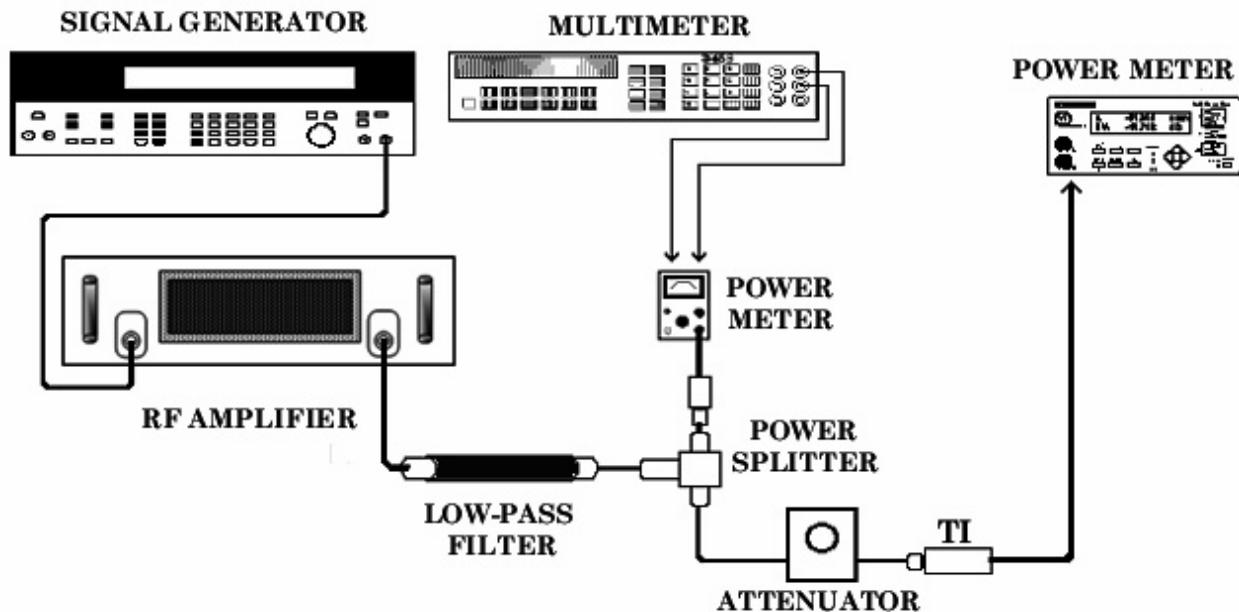

Figure 2. Power Sensor Linearity and CALFAC Equipment Hookup.
- a. Connect equipment as shown in figure 2.
- (1) Connect equipment as shown in figure 2, except remove low pass filter.
- (2) Set the step attenuator to 70 dB. Connect TI sensor to TI front panel **CALIBRATOR** output and zero the TI by pressing **ZERO/CAL**.
- (3) Set the step attenuator to 0 dB after the TI chimes to signal completing the zeroing process. Reconnect sensor to equipment hook up.
- (4) Set the multimeter to a range that results in a 1  $\mu$ V resolution. Connect the positive and negative leads to the **VCOMP** and **VRF** connectors respectively on the rear panel of the power meter.
- (5) Fine zero the power meter and set power meter **RANGE** switch to **1 mW**.
- (6) Record the multimeter indication as  $V_0$ .
- (7) Set the signal generator output to 1.0 GHz and level to 1.00 mW as indicated on the power meter.
- (8) Record multimeter reading as  $V_1$ . Record TI reading as  $P_1$ .
- (9) Disconnect the multimeter negative lead from the **VRF** connector on the rear panel of the power meter and connect it to chassis ground. Record this voltage as **VCOMP**.
- (10) Calculate that actual power using the formula listed below and record as  $P_t$ .